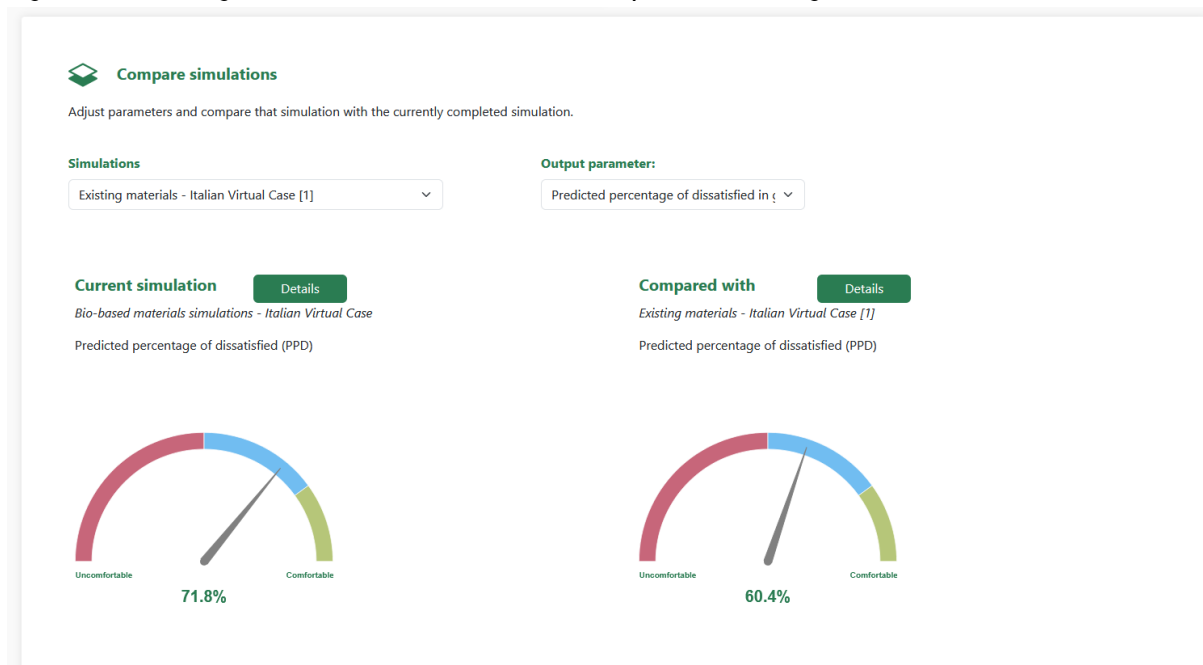

Figure 18: PPD comfort indicators comparison.
18. Figure 18 shows again the comfort indicator PPD comparison for the ground floor.